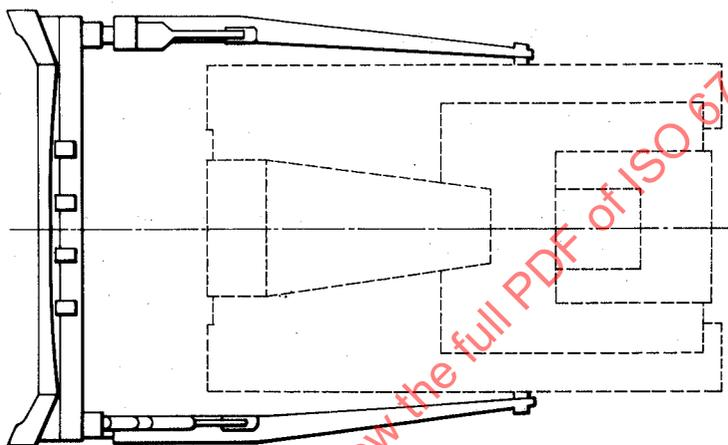

Figure 8 – Crawler tractor with straight dozer
6.1.1 dozer equipment (see figures 8 and 9) : Consists of a front blade, its relevant frame, and controls for positioning the blade.